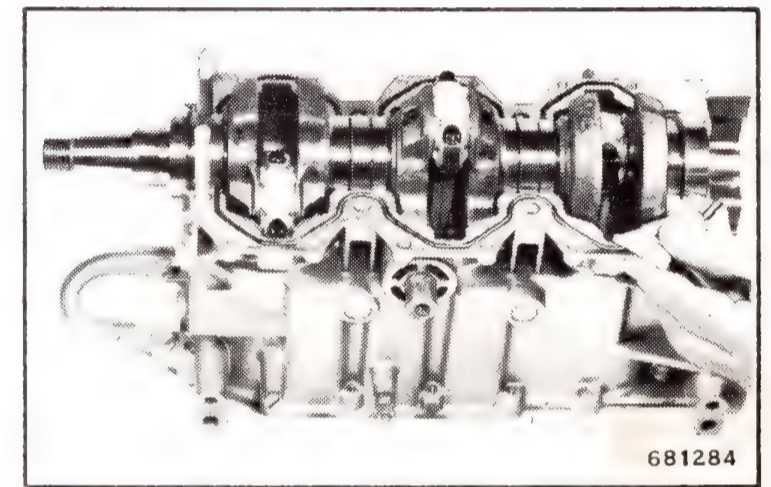

Figure 5-35. Apply Sealer 1000
b. Apply a thin line of Sealer 1000 to crankcase face. DO NOT over-cement; excess will squeeze over to foul oil channels, etc. See Figure 5-35.